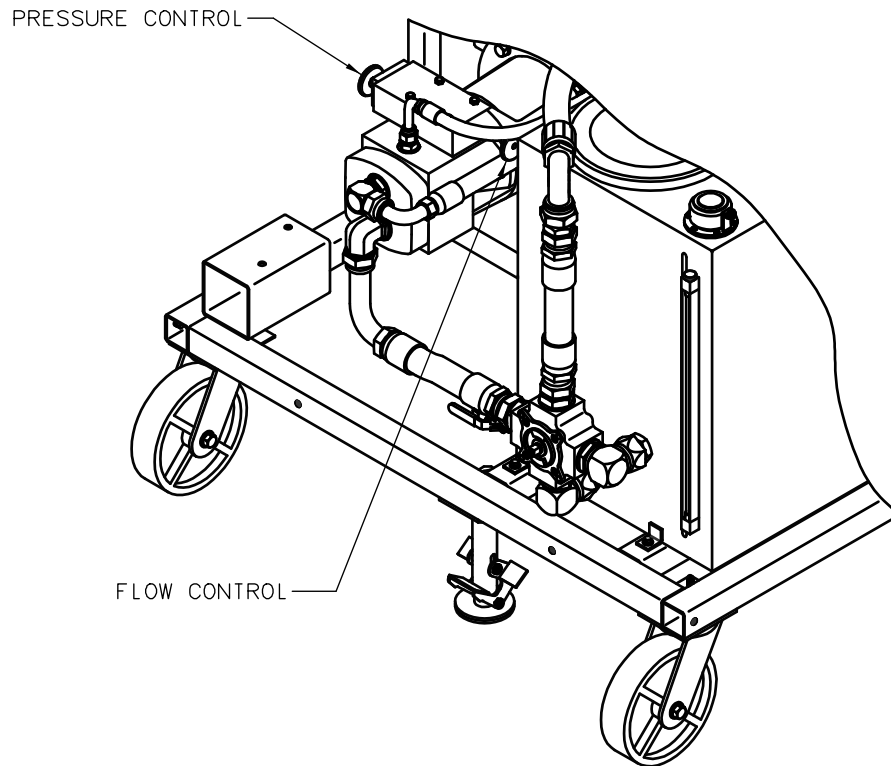

FIGURE 5.3.5 – Hydraulic Pump Controls
- Pump Control AccessSee **Figure 5.3.5 - Hydraulic Pump Controls**.